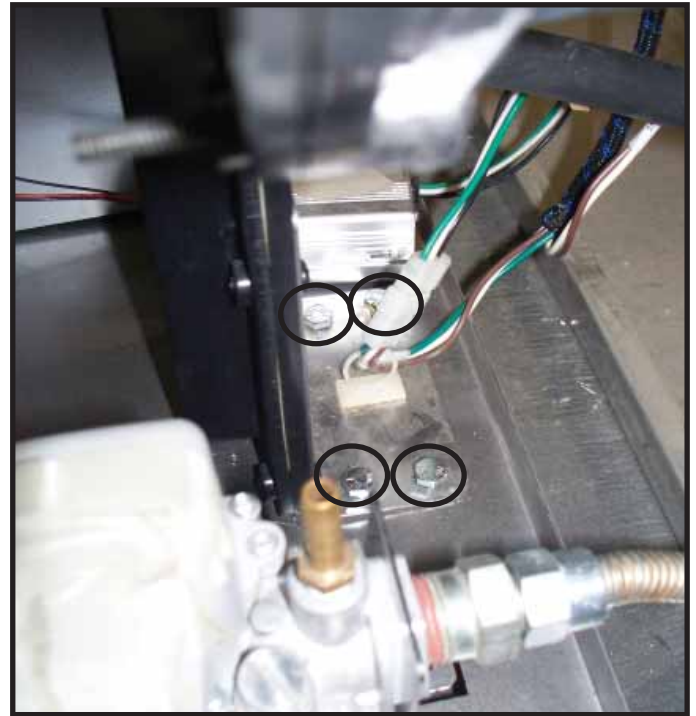

Figure 3.17. Remove Mounting Bolts
9. Remove four 3/8 in. mounting bolts. See Figure 3.17.